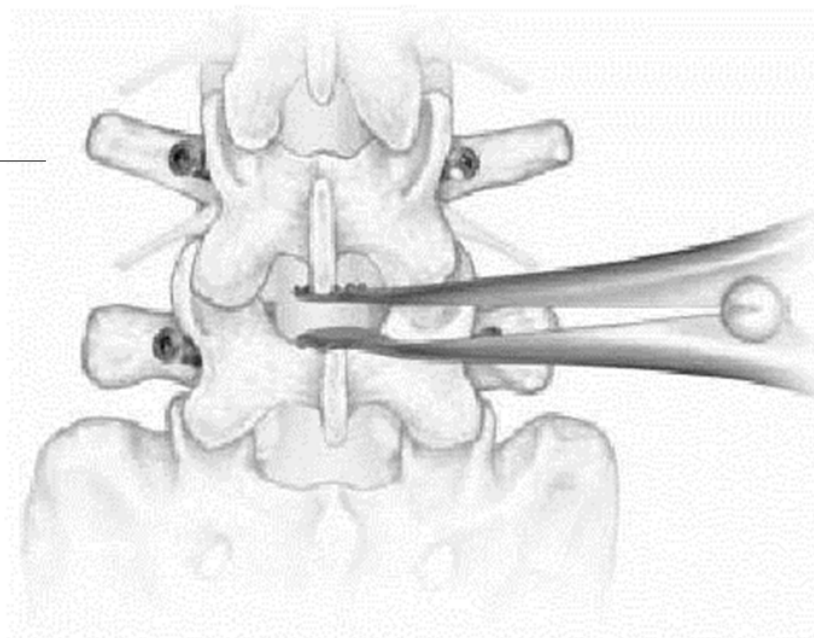

Fig 3
- Alternatively, place a spreader at the lamina or base of the spinous process (Fig 3). Distraction may be maintained with screws and rods following use of the spreader.